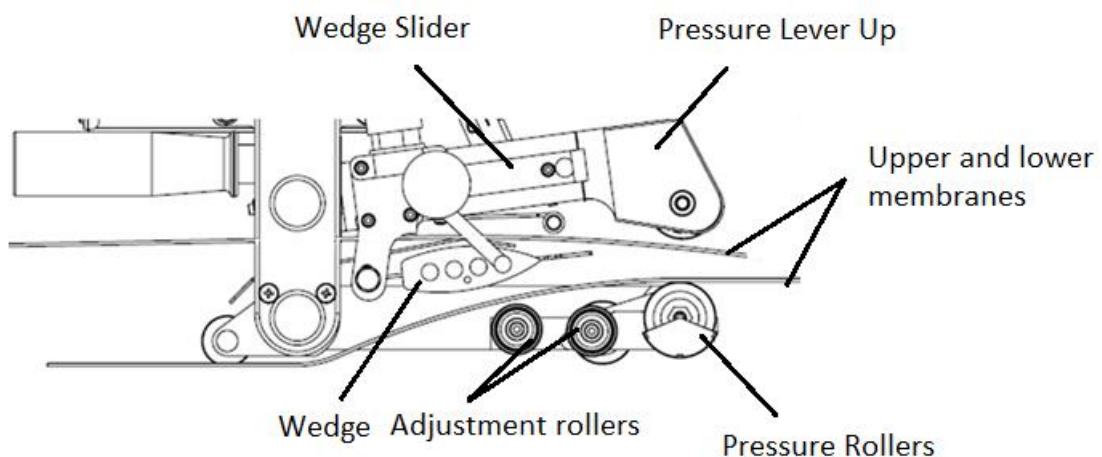

Fig.5. The way of putting membranes into the robot
4. The wedge position can be adjusted horizontally. Be sure that it is in the right end of the wedge slider considering Fig.5.
7. As soon as the robot reaches to the end of the welding route, open the pressure lever up to avoid the pressure rollers (Fig.5) sliding on each other.